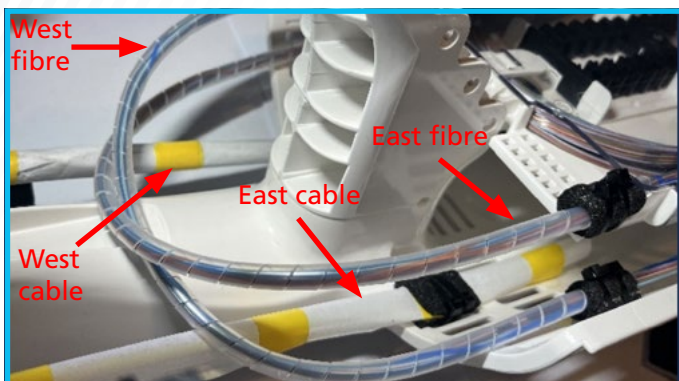

Figure 29
7. Repeat the same process for the second 432f cable, route the unit bundle to the opposite side of the splice tray [figure 29].